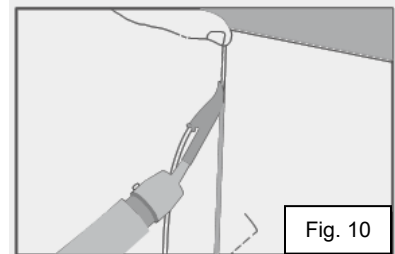

Fig. 10
- 8.9. Start the weld from top to bottom, maintaining pressure on the start point with a finger (fig.10).